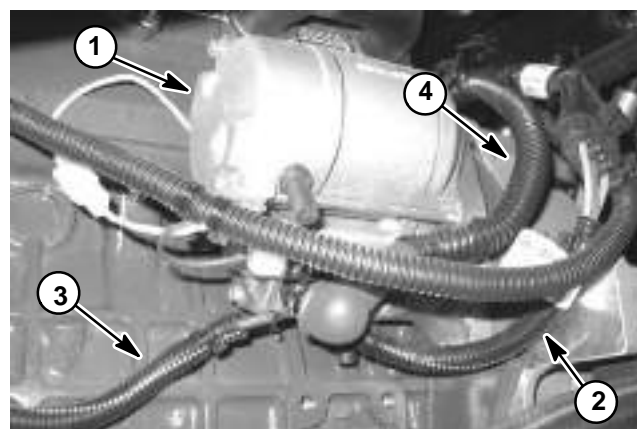

Figure 13
- E. Starter motor and fusible link harness (Fig. 13).